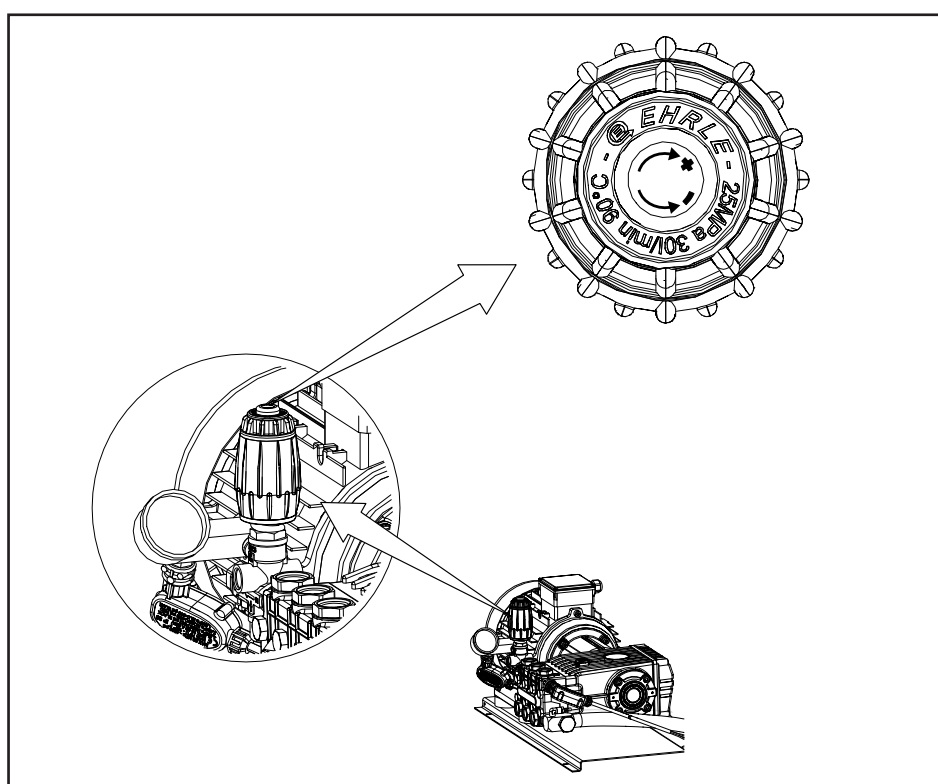

Fig. 6 - 4 Adjustment of the operating pressure at the unloader valve
After activation of the trigger gun the emerging water jet exerts a jerky recoil force (see also Fig. 6 - 5).
- Set the unloader valve (2, Fig. 6 - 3) inside the cabinet to the desired operating pressure. The operating pressure can be read off the manometer (3, Fig. 6 - 3) while the trigger gun is open. Turning the unloader valve clockwise increases the operating pressure and increases the flow rate (see also Fig. 6 - 4). Turning it counterclockwise causes a low operating pressure and a lower flow rate.